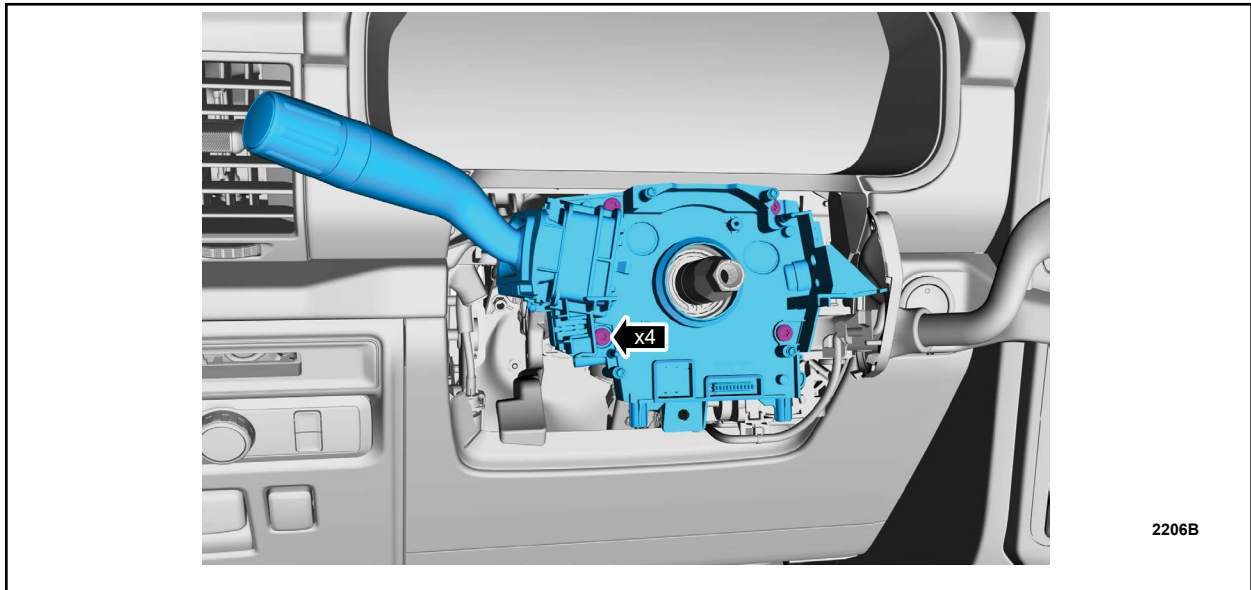

FIGURE 5
7. Remove the retainers and the SCCM. See Figure 5.